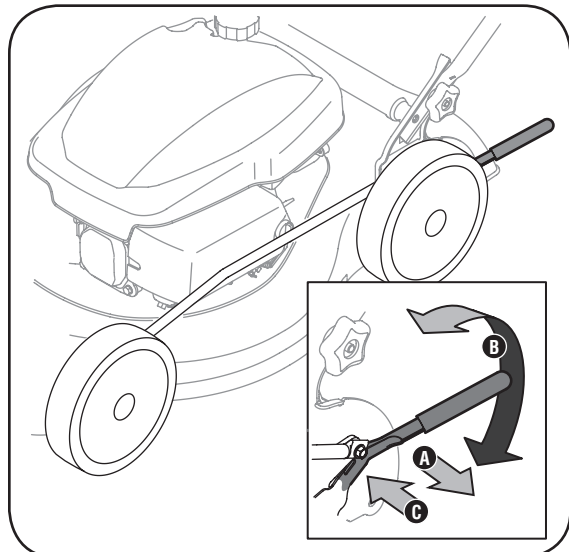

Figure 3-8: Use adjustment levers at each wheel to change the cutting height.
- 1. The cutting height adjustment lever is located above the rear left wheel. See Figure 3-8.